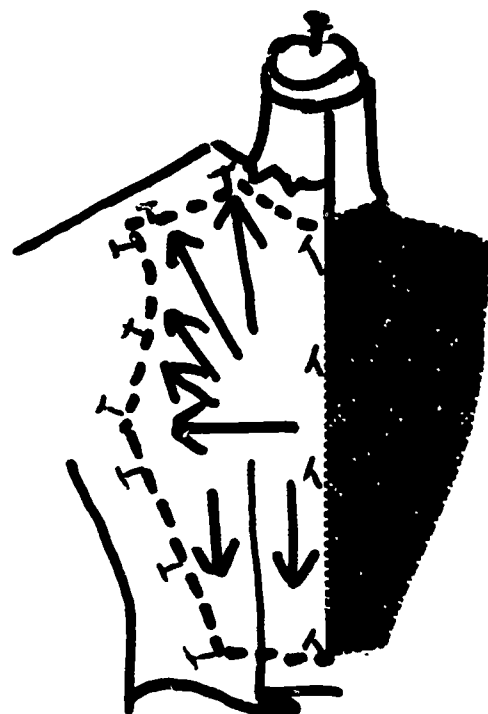

Fig. 71
3. Place selvage on the center-front (C. F.) of the form, extending the muslin 2" beyond the center-front (C. F.) neckline and 1" below the C. F. waistline. (Fig. 71.)